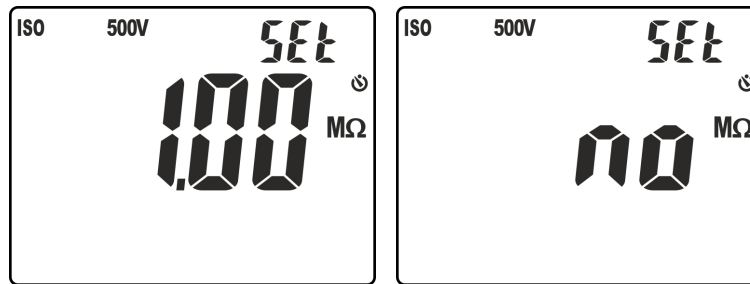

Fig. 16: Setting the limit threshold for insulation measurement
5. Press keys $\nabla/\text{light bulb}$ or $\blacktriangle/\text{ZERO}$ to select the value among the options: **0.10M Ω** , **0.230M Ω** , **0.50M Ω** , **1.00M Ω** , **100M Ω** , **no**. Option “no” indicates that no threshold was set (see Fig. 16).
4. Press and hold key **VTEST/LIM** (>2s) to set the **minimum** limit threshold for measurement. The symbol "Set" flashes on the display. Press keys **▼/⚡** or **▲/ZERO** to select the value among the options: **0.10MΩ, 0.230MΩ, 0.50MΩ, 1.00MΩ, 100MΩ, no**. Option "no" indicates that no threshold was set (see Fig. 16).